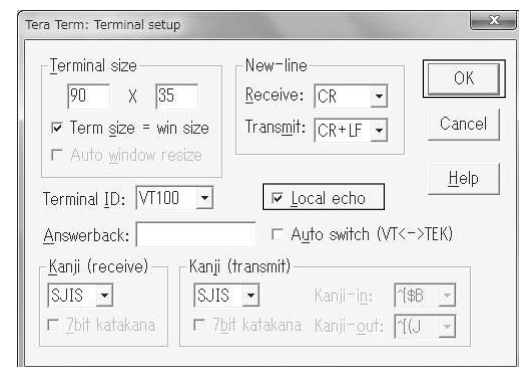

Fig.3-3
⑤Click Setup, and then Terminal port.
⑥Enter the settings as shown below and Click OK. (Fig.3-3)